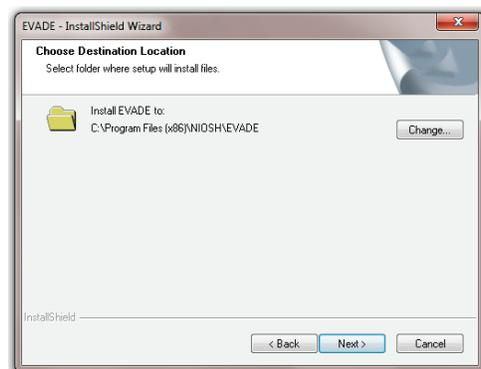

Figure 9. Window displaying folder where EVADE will be installed.
7. The wizard will display the folder where EVADE will be installed (Figure 9). If this directory is satisfactory, click **Next** to proceed.